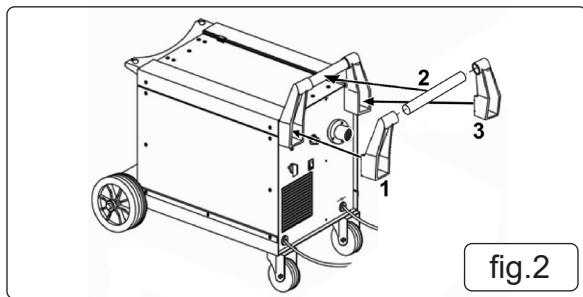

fig.2
4.3. **ASSEMBLING THE HANDLE:** (Refer to fig.2)